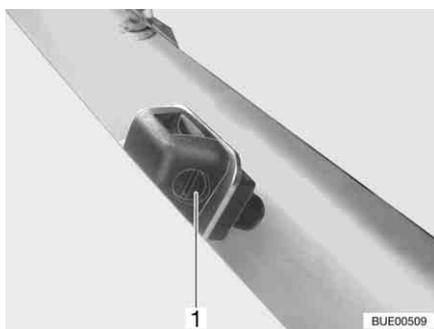

Fig. 44 Washer nozzle
- Use a suitable screwdriver to turn the adjusting screw (Fig. 44,1) until you reach the desired position.